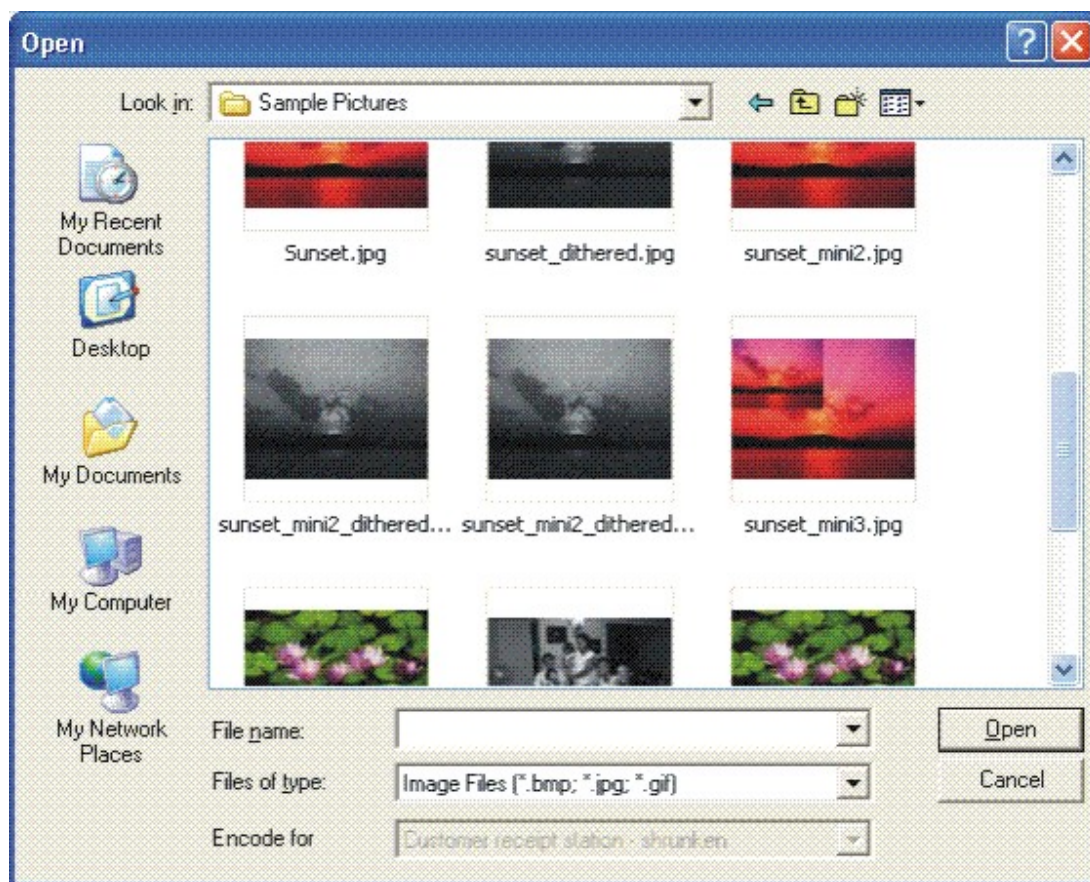

Figure 42. Selecting the logo file
6. Select the logo file (see Figure 42).